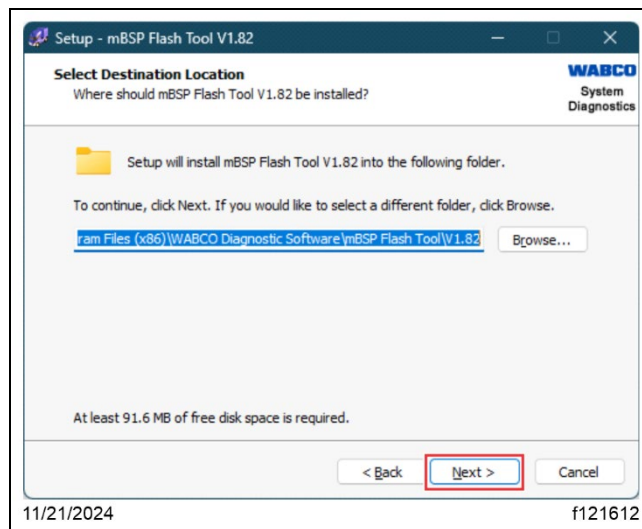

Fig. 36, Selecting the Destination Location
7.8. On the 'Select Destination Location' screen, verify the destination folder, then select 'Next.' See Fig. 36.